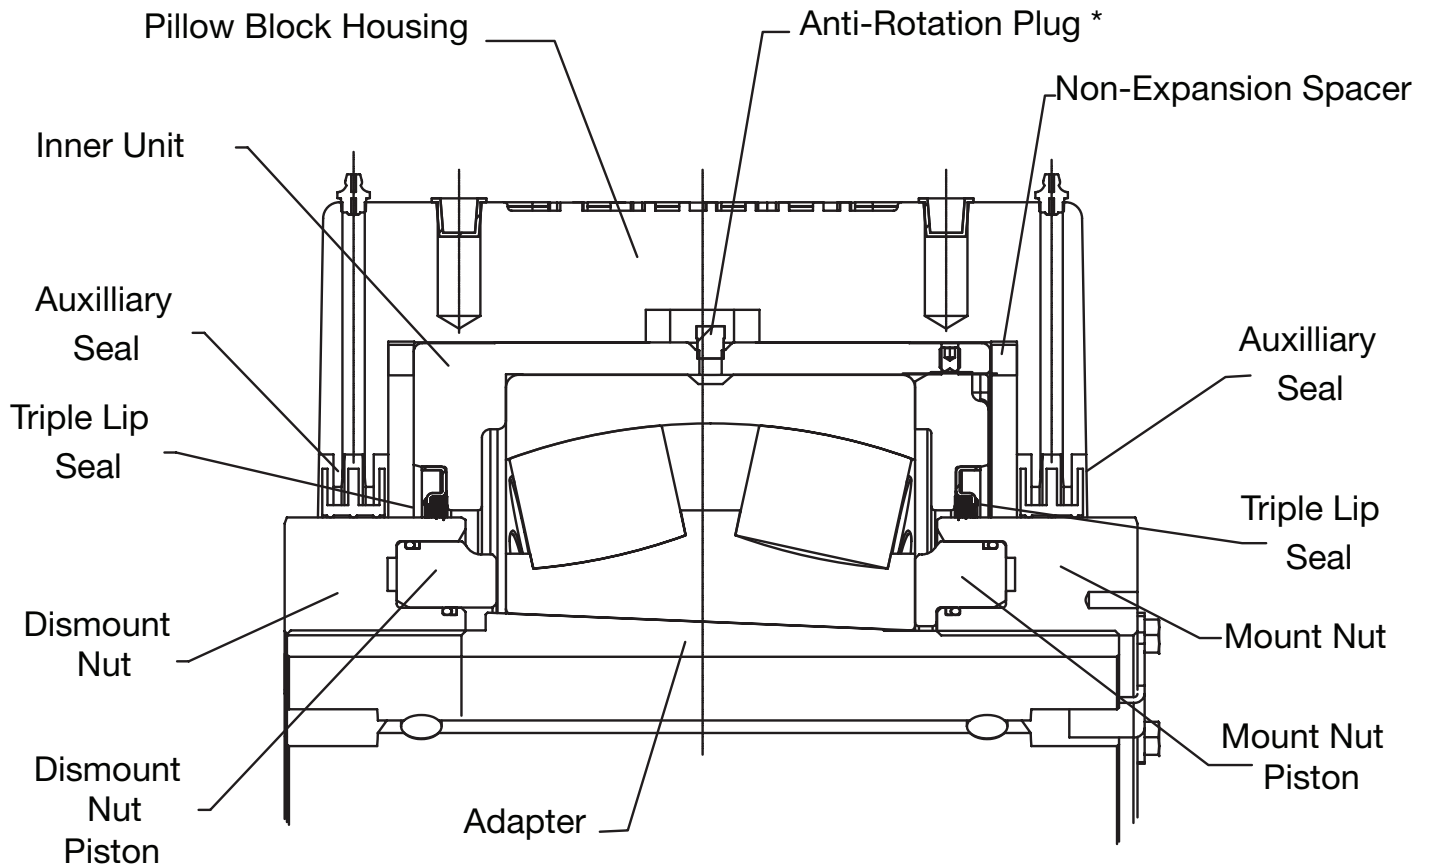

Figure 3 - Cross Section
4. Rotate Dismount Nut counter clockwise two full rotations. The Dismount Nut must remain loose during the mounting procedure but should never be removed. Without loosening the dismount nut, the dismount unit piston will make contact with the bearing unit as it travels up the adapter. (See Figure 3) This will not allow the bearing to move up the adapter and tighten properly.
NOTE: Once the bearing is properly mounted, ensure the anti-rotation plug is positioned so that it is aligned with the machined groove in the cap housing. See Figure 3.
4. Incorporating a spanner or drift and hammer, rotate the Mount Nut counter clockwise two full rotations. The Mount Nut must remain loose during the dismounting procedure, but should never be removed. Without loosening the mount nut, the mount nut piston will make contact with the bearing unit as it travels down the adapter. (See Figure 3) This will not allow the bearing to move down the adapter and loosen from the shaft properly.